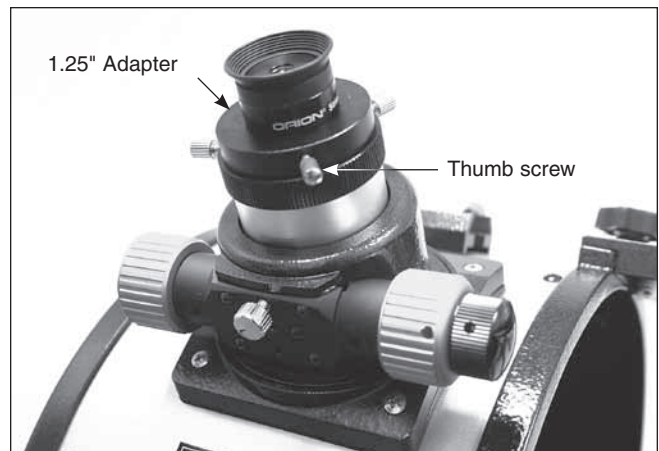

Figure 34. The 1.25" Sirius Plössl eyepiece installed in the focuser's removable 1.25" adapter.
4. To install the 10mm Sirius Plössl eyepiece (1.25") instead of the 2" DeepView eyepiece, keep the 1.25" adapter in the focuser, and make sure the two thumb screws on the 2" adapter are tightened. Now, loosen the thumb screw on the 1.25" adapter; do not loosen the two thumb screws on the 2" adapter. Insert the 1.25" eyepiece into the 1.25" eyepiece adapter, and secure it by retightening the thumb screw on the 1.25" eyepiece adapter (**Figure 34**). The 2" eyepiece can be placed in the eyepiece rack until it is needed.